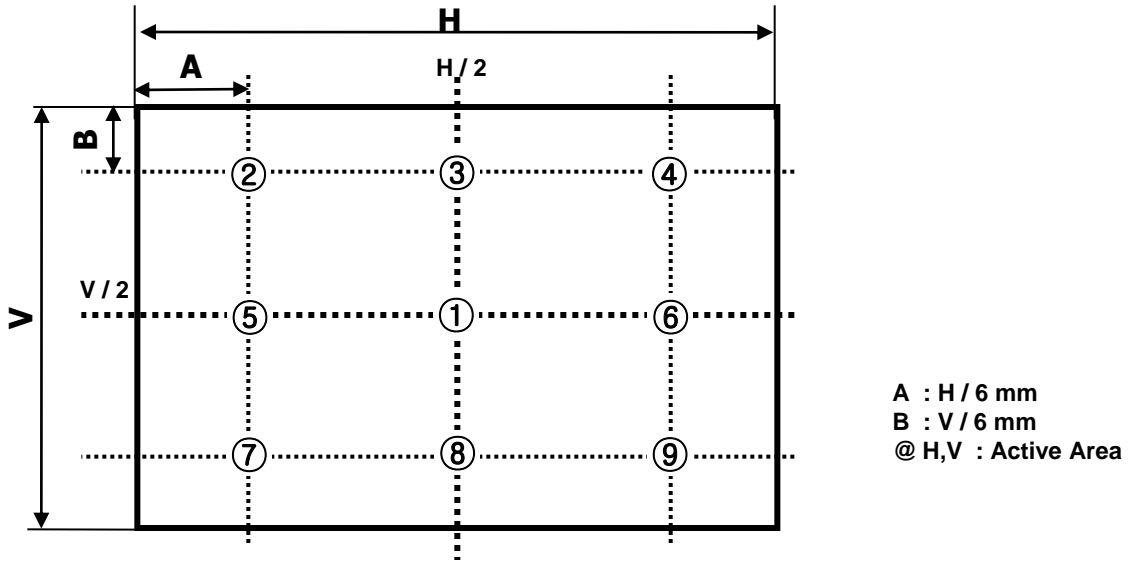

FIG. 2 9 Points for Luminance Measure
2. Surface luminance is determined after the unit has been 'ON' and 1 Hour after lighting the backlight in a dark environment at $25 \pm 2^{\circ}\text{C}$. Surface luminance is the luminance value at center 1-point across the LCD surface 50cm from the surface with all pixels displaying white. For more information see the FIG. 2.